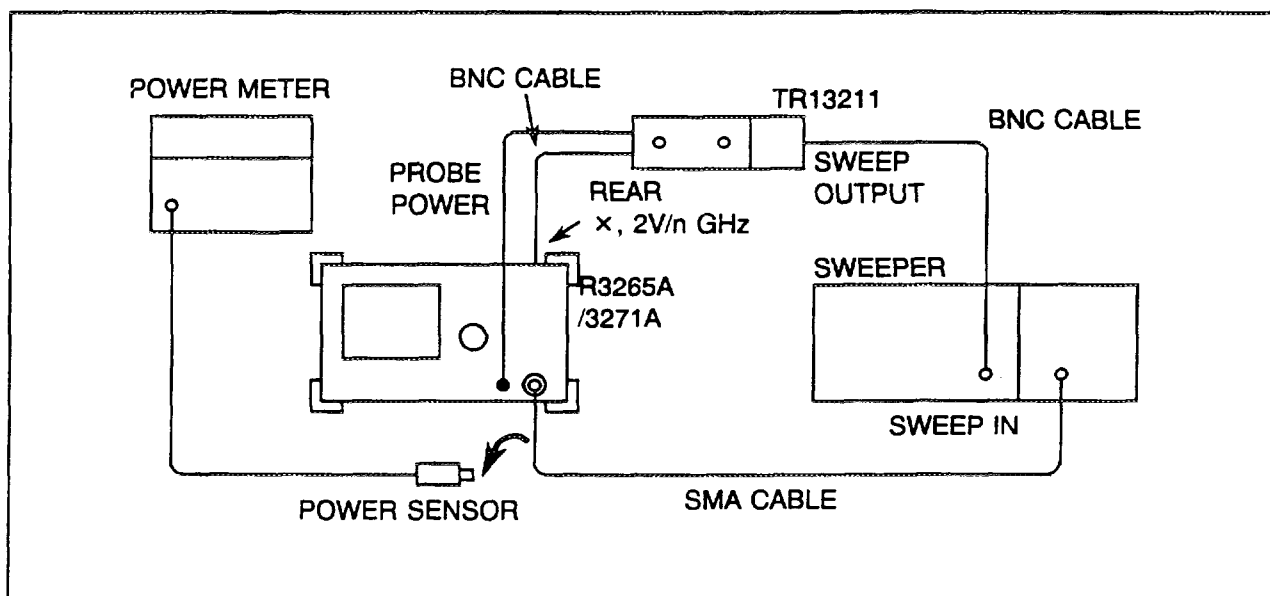

Figure 5-12 Frequency Response Adjustment Setup
- (1) Zero and calibrate the power meter. Rotate and set the CAL FACTOR control to the 2GHz calibration factor of the power sensor.
- (2) Connect the equipment as illustrated in Figure 5-12.
- (3) Press the INSTR PRESET key on the HP8350, and set the control as follows: